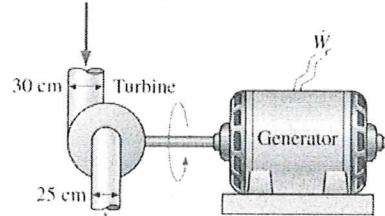

Figure 3
3. Water enters a hydraulic turbine through a 30-cm-diameter pipe at a rate of 0.6 m³/s and exits through a 25-cm diameter pipe (see fig.3). The pressure drop in the turbine is measured by a mercury manometer to be 1.2 m. For a combined turbine-generator efficiency of 83%, determine the net electric power output. Disregard the effect of the kinetic energy correction factors.